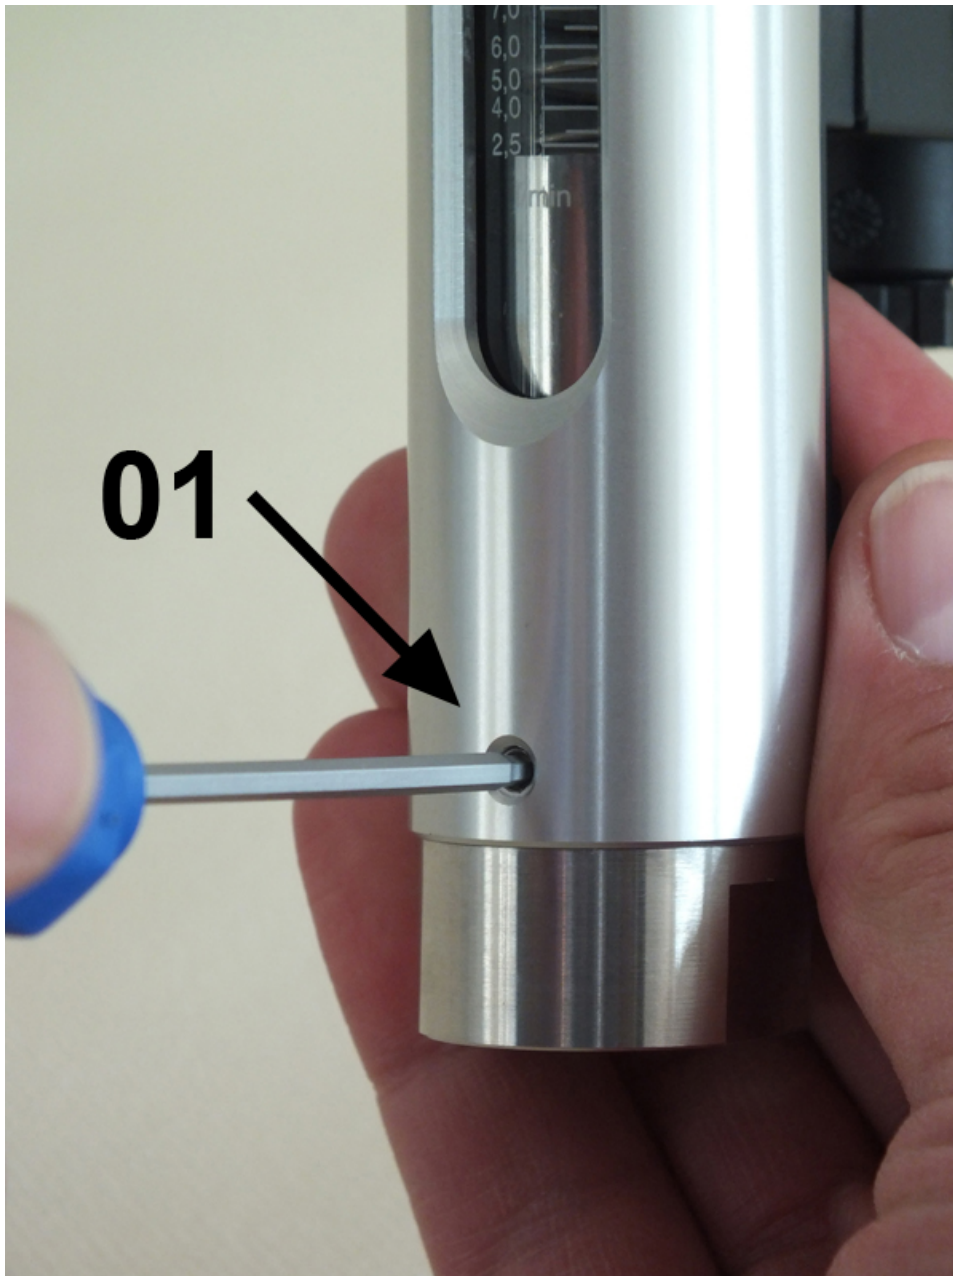

Fig. 37: Loosen screws
- 3.** ➤ Secure the device with one hand to ensure the sight glass does not slip out. With the other hand, loosen the lower 3 hex head screws (*Fig. 37/01*)